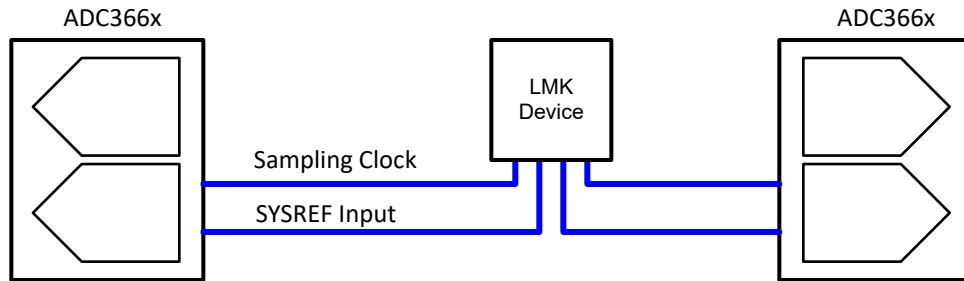

Figure 7-14. Synchronization example of 2 devices
- DDC mode: Internal blocks related to the decimation filter (clock dividers, NCO phase, and so on) are reset to a deterministic state using the SYSREF signal. External multi-chip synchronization is accomplished by matching both clock and SYSREF signal traces (blue lines) across devices as shown in Figure 7-14.